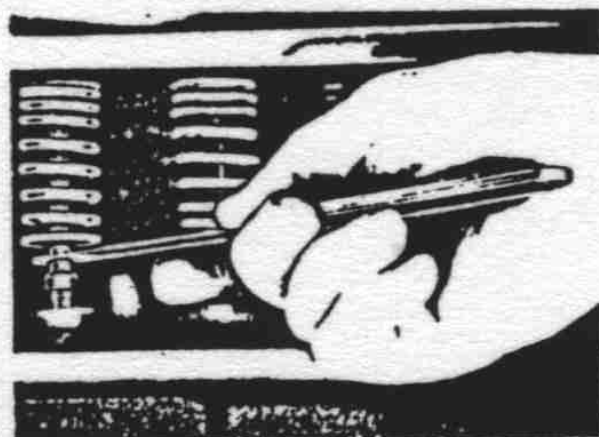

FIG. 17 VALVE TAPPETS AND SPRINGS
(6) **Valve Tappets.**—Disconnect the tubes from the valve spring cover, remove the cover screws and the cover. Crank the engine slowly by means of the hand crank and note when the intake valve of No. 1 cylinder begins to open. Then turn the crank one full revolution further. This places the camshaft in the correct position for checking or readjusting both tappets of No. 1 cylinder. Check the clearances with a feeler gauge, (Fig. 17). The
up against the cylinder block, (Fig. 17). Then install the valves, each in its proper seat. Using a valve valves which are in closed position and insert the valve spring locks with a valve key inserting tool. If no key inserting tool is available, hold keys in place by sticking them to valve stem with grease. Crank engine until other valves are closed and install the remaining keys.
(2) Adjust the valve tappet to valve stem clearance to .014", (Fig. 17). Remove cloth or waste from valve chamber.
(3) Clean top of block and pistons of all foreign matter and install cylinder head gasket. Clean carbon from cylinder head and wipe off all foreign matter, then install over studs on cylinder block. Install oil filter bracket. Install cylinder head